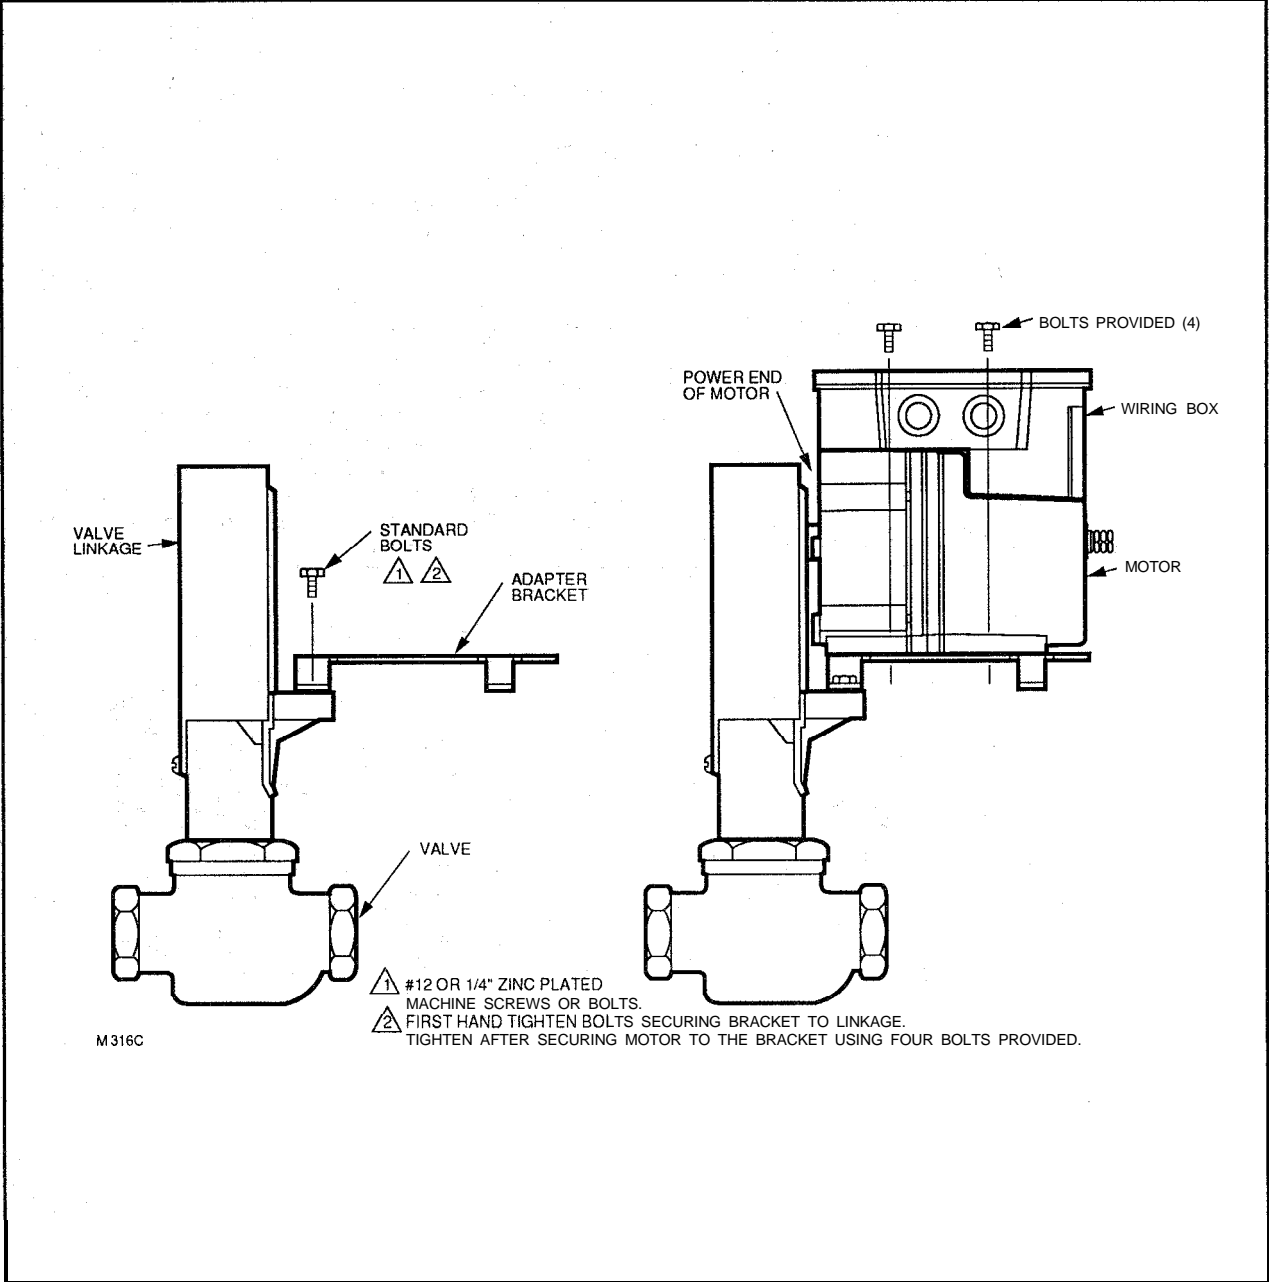

FIG. 4—MOTOR MOUNTING ON VALVE LINKAGE.
- For valve linkage applications, the bracket should first be mounted to the linkage (see Fig. 4). The bracket then provides a convenient base on which the motor can be positioned. After the motor shaft is aligned to the linkage, it can then be attached to the bracket with the 4 bolts provided. These bolts go through the inner set of holes in the motor flange and into the threaded holes of the bracket.